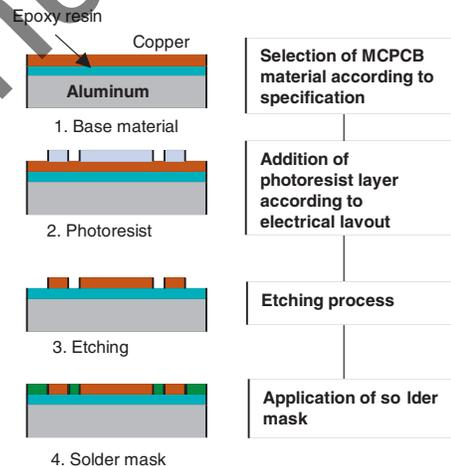

Figure 7. Steps 1-4, Procurement and Preparation of MCPCB.
This is the MCPCB supplier. By etching the copper layer for the conduction paths between components, this supplier converts the base material into a PCB layout (see figure 7). A solder mask is added for protection of the copper layer once the etching is complete.
- Procurement and preparation of MCPCB (see figure 7)
Steps 1-4: Procurement and Preparation of MCPCB (see figure 7)